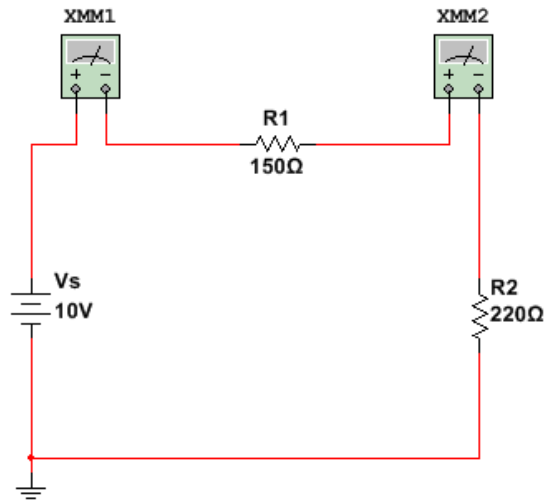
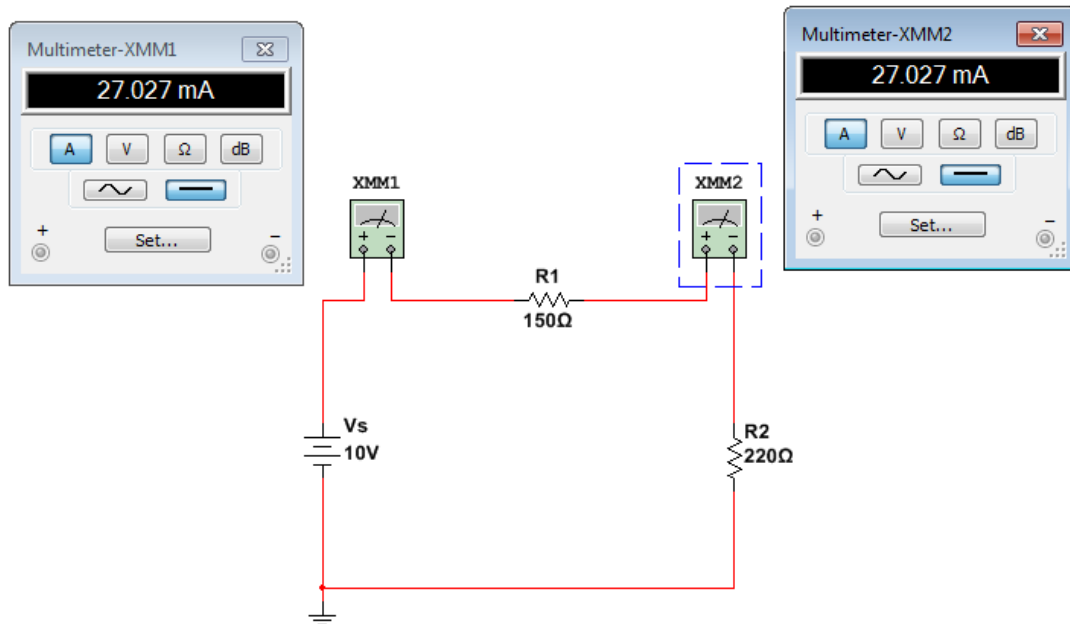

Figure 4.13 – Measuring the current through $150\ \Omega$ and $220\ \Omega$ resistors
Figure 4.15 – To measure current through $R1$ and $R2$
- Obtain another multimeter from the instrument toolbar and connect the multimeter in between the break. Check Figure 4.13.
- Since the circuit at Figure 4.13 is set to measure dc current, to do so, click on Ammeter  to measure the current flowing the circuit in a branch between the two nodes. Check Figure 4.15.